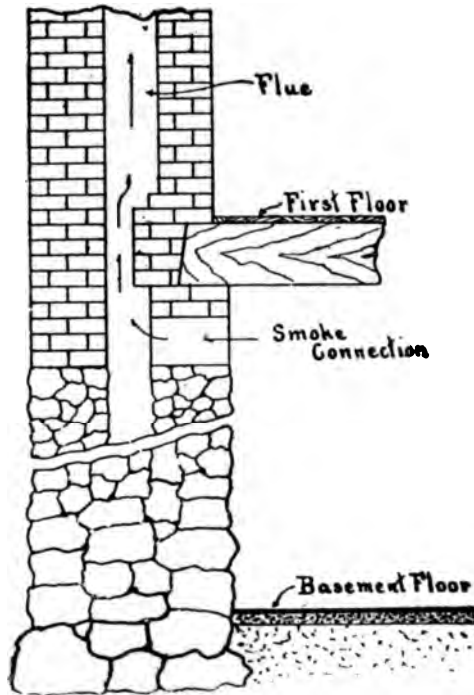
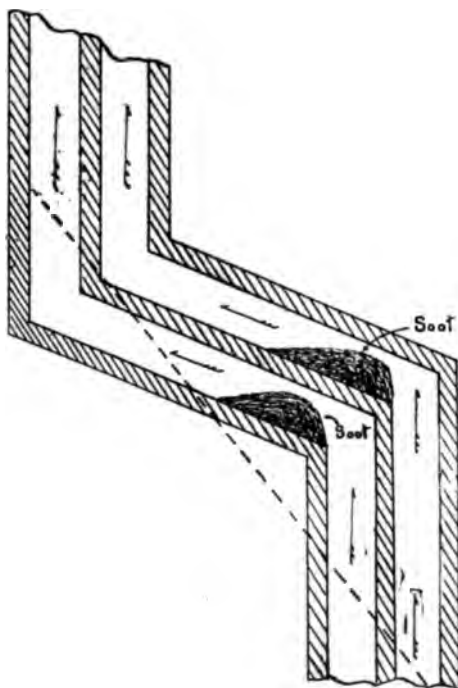

Fig. 5.—Effective Area of Contracted Flue.
Fig. 6.—Effect of Soot in Offset of Flue.
A. Insufficient area or height, smoke pipe pushed into the chimney too far, the chimney being contracted or enlarged at some point, (Fig. 5), two or more smoke pipes entering the same flue, poor shape or construction, and too abrupt offsets or clogging with soot. (Fig. 6).